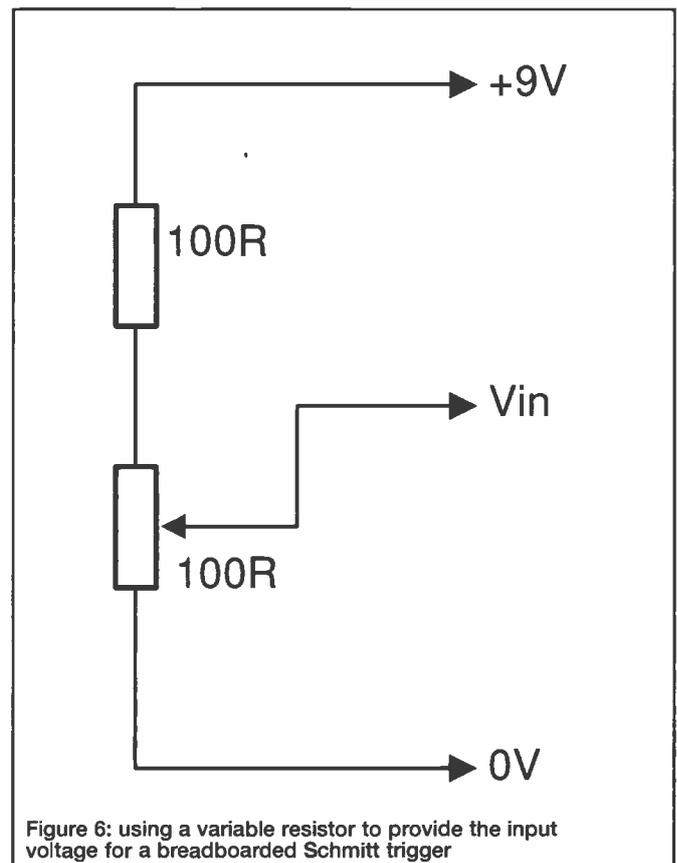

Figure 6: using a variable resistor to provide the input voltage for a breadboarded Schmitt trigger
2. Once the circuit has been switched off at 32degreesC by a rising temperature, the temperature has to fall to 25degreesC before it is switched on again. This avoids a situation in which a circuit is triggering on and off every few seconds. The gap between the two thresholds is known as the hysteresis of the circuit. If you are following this project on a breadboard, now is the time to set up the circuit, measure the thresholds and find the hysteresis. Use a variable resistor to produce the varying input, as in figure 6.